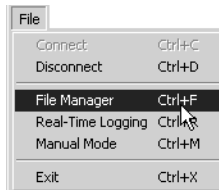

Figura 4-9. File ▶ Manager
3. Haga clic en **File ▶ File Manager** (Figura 4-9).